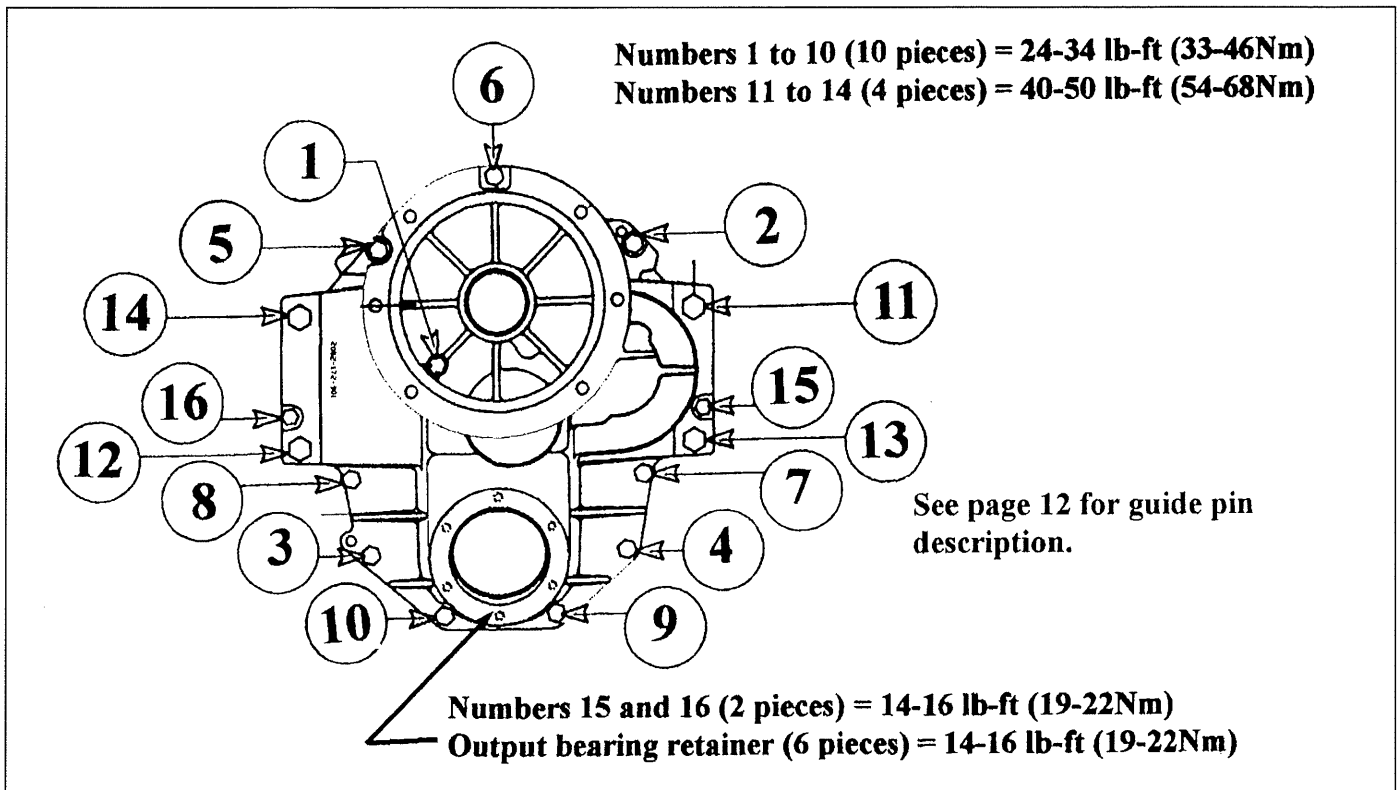

Figure 1-7: Torque sequence and specifications
17. Position gasket (130) on case (160). Use petroleum jelly to hold gasket. Do not use sealer of any kind.
18. Place cover (129) on gasket and install guide pins into the two (2) roll pin (123) locations. See figure 1-7.
19. Install bolts (124, 125, 127 & 128) and washers (126) finger tight only. Use RTV sealer on bolt (127).
20. Remove guide pins and install roll pins (123) through cover (129) and case (160).
21. Tighten bolts as described in figure 1-7.